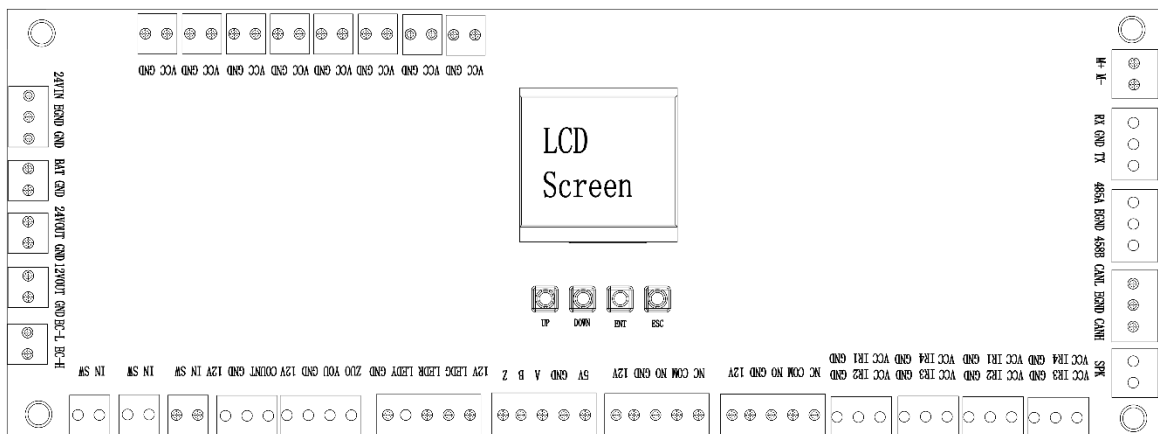

Figure 3-1
2) There are 4 buttons 'UP, DOWN, ENT, ESC' on the control board, show as Figure 3-1: